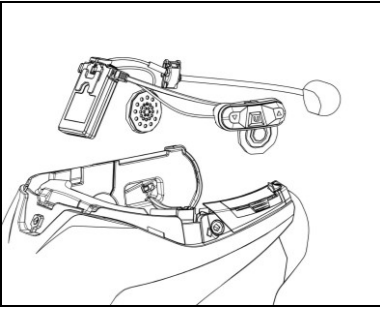

Fig. 7
- Place the system in the special housing in the back of the helmet, pushing it all the way into the groove (Fig. 7).